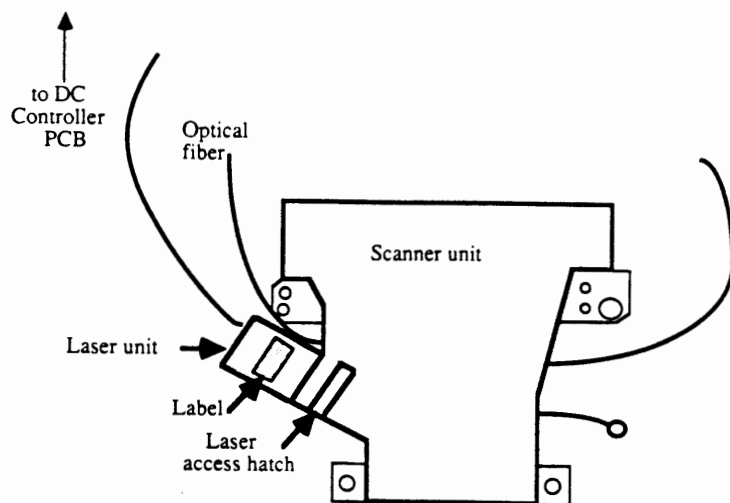

FIGURE 3-4
12. Compare the averaged reading to the reading shown on the laser label (Figure 3-4).